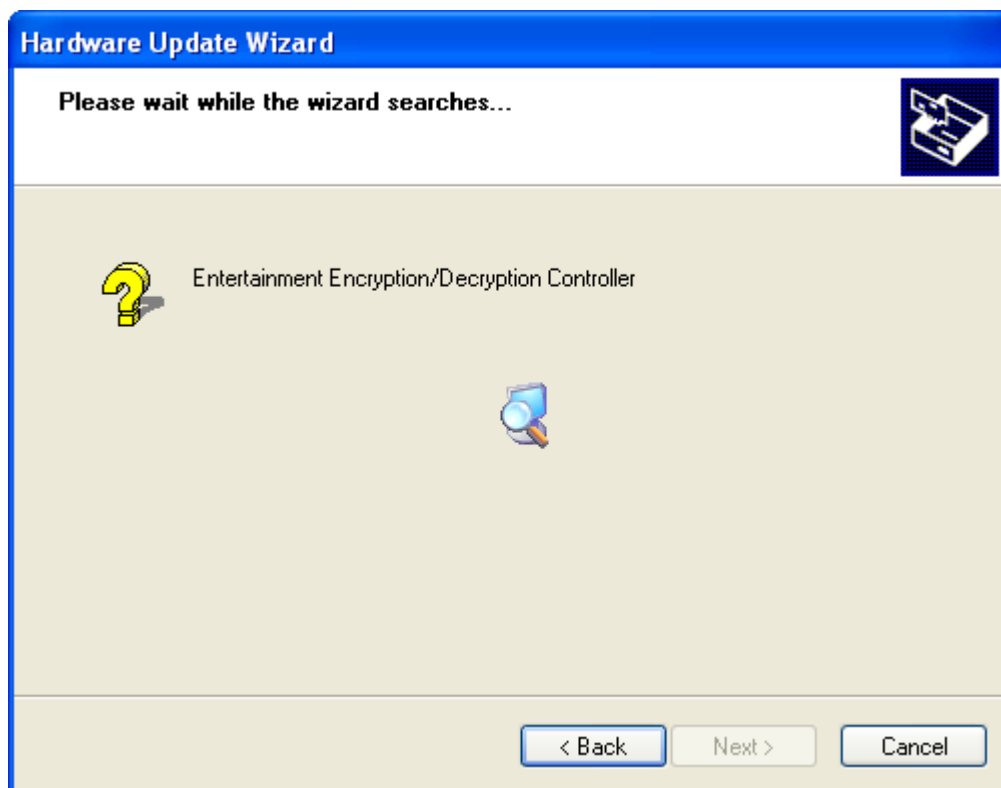

Figure 7-39: Entertainment Encryption/Decryption Controller Driver Installation
Step 11: The Wizard updates the driver. See **Figure 7-39**.